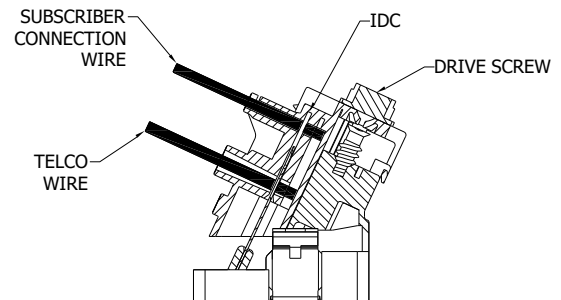

Figure 7
5. Insert while holding the two subscriber connection wires in place. **Ensure wires are fully inserted beyond the IDC connector (See Figure 7).** Tighten Drive Screw to the full down position. **Pull on wires to ensure proper connection. Wires should remain securely in place.**
3. Fully insert the two feeder (telco) wires into their respective tip and ring (color-coded) ports. **Ensure wires are fully inserted beyond the IDC connector (See Figure 7).**